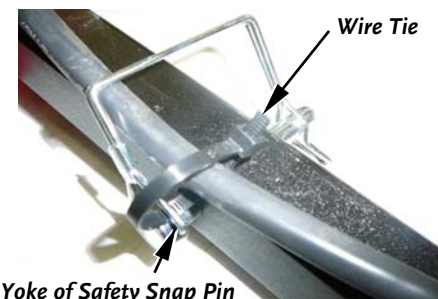

Figure 18
2. Run a Wire Tie around the Control Cable and through the Yoke on the Safety Snap Pin (**Figure 18**).
3. Put the end of the Wire Tie into the Wire Tie Catch and draw the Tie closed, but do not tighten it completely (**Figure 18**). The Control Cable should be free to slip through the Tie during turns.